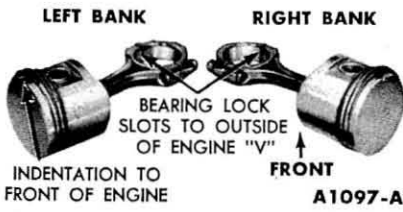

FIG. 31—Connecting Rod and Piston Assembly
2. Position the connecting rod in the piston and push the pin into place. Assemble the piston and connecting rod with the oil squirt hole in the connecting rod and the indentation in the piston positioned as shown in Fig. 31.